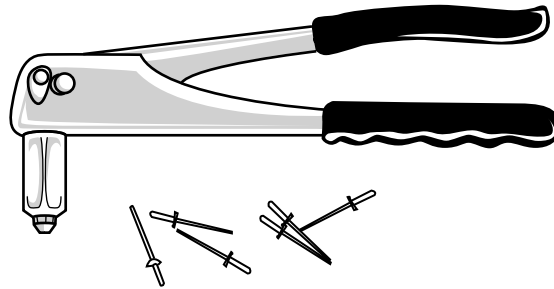

Fig. 3
- 6 Name the process that uses the equipment shown in Fig. 3.